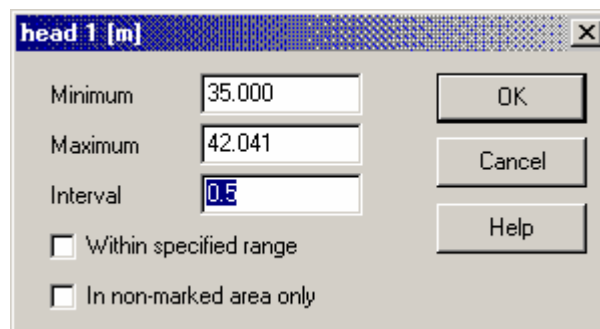

Figure 27: Contour pop-up window (2)
4. Either click on the -button, press F7, or from the main menu, select Command → Draw contours. You'll now see the following pop-up window (Figure 27):